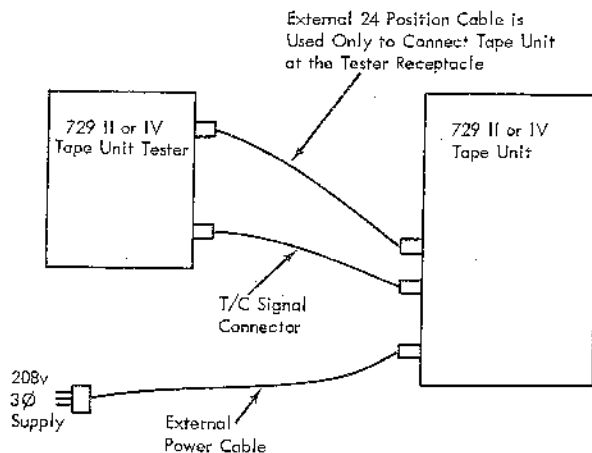

Figure 5-2. Tape Drive Tester Connections, 729 II and IV
All the indicating lights on the tester (Figure 5-2) perform the same operations as those located on the tape unit.
5.1.4 Hubs (Figure 5-2)